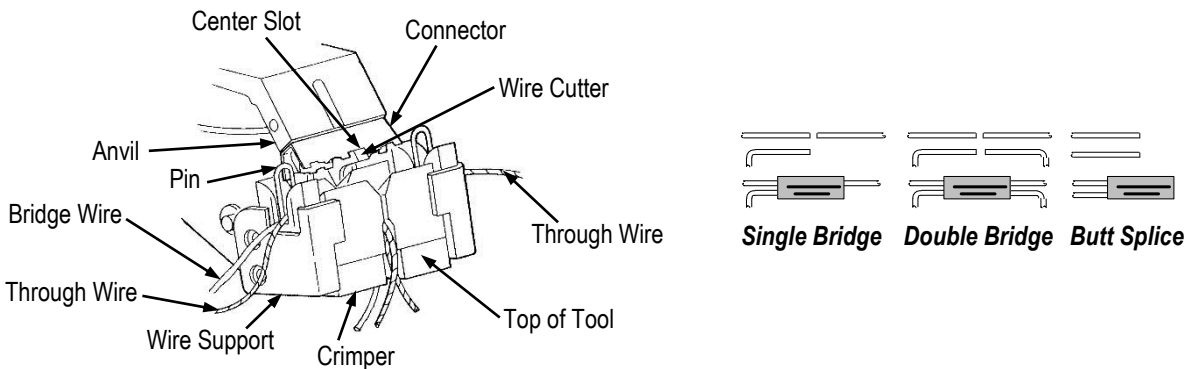

Figure 5
**5.3. Bridging Connectors** (See Figure 5)
4. Insert a connector into the tool as shown in Figure 5. Make sure the wire cutter enters the slots in the center of the connector.